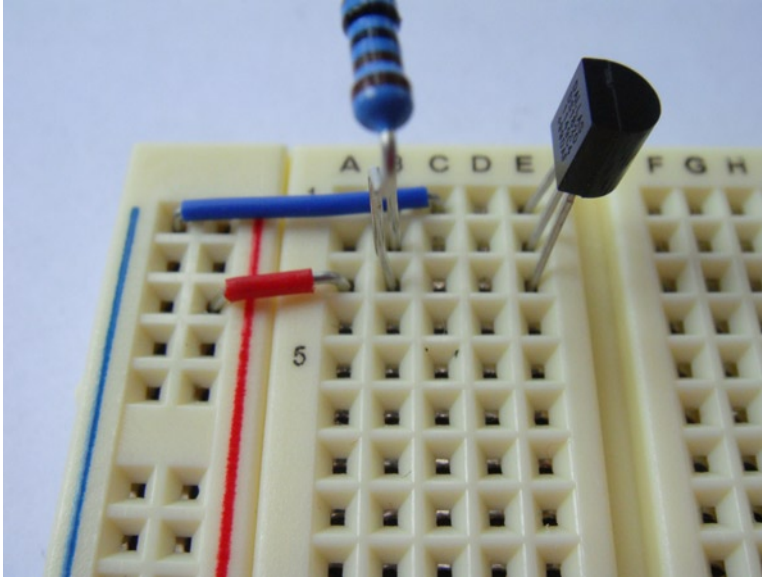

Figure 3-10. *Good resistor placement*
4. Now you need to install a resistor. This resistor is the pull-up resistor. You must insert it between pin 2 and pin 3. Place this close to the edge of the board. Have a look at Figure 3-10 for an example of a good placement. Why is that a good place? This is the pull-up resistor and it needs to follow the connection from the Raspberry Pi's GPIO pin. If you were to place the resistor before the connection your sensor won't work.